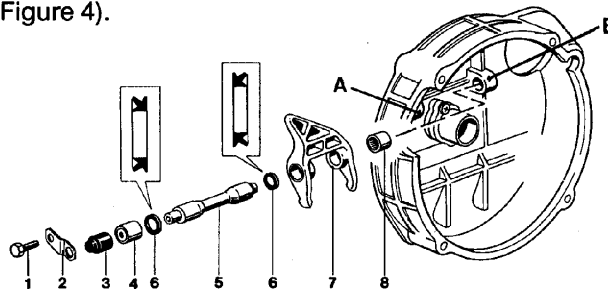

Figure 4
6. Guide the closed bearing (8 in Figure 4) on the release lever shaft and tap bearing into support B. Remove release lever shaft and lubricate bearing with Olista Longtime 3 EP.
9. Install both seals (6 in Figure 4) on release lever shaft. **Check installed direction of seals** (Figure 4). Lubricate bearing (4 in Figure 4) with Olista Longtime 3 EP and install on release lever shaft.
11. Fill cover (3 in Figure 4) with Olista Longtime 3 EP and install in bearing support A. Install holder and bolt (1 and 2 in Figure 4).